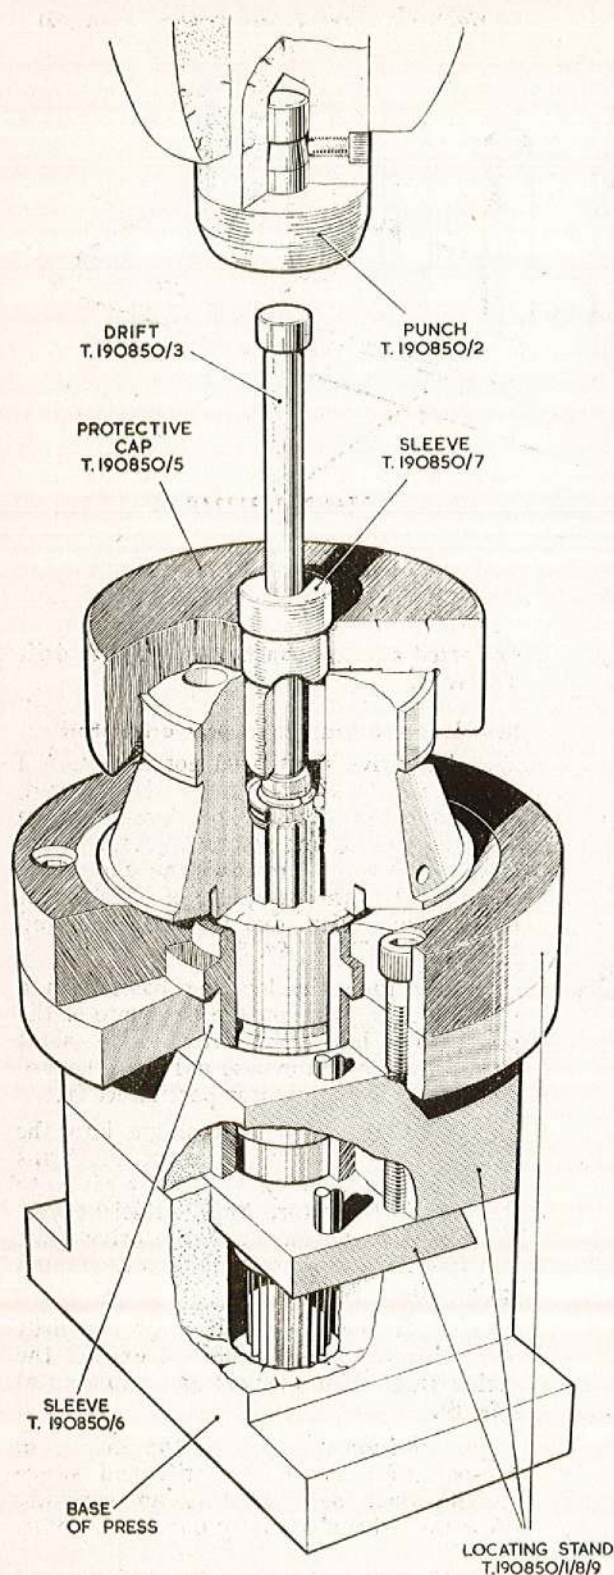

Fig. 5. Removing the rotor drive shaft
23. The drive shaft need not be removed from the rotor unless the shaft is damaged, shows signs of corrosion, or there is leakage past the sealing ring when subjected to the pressure test. To remove the shaft, use a hand press, the baseplate of which must have a hole $1\frac{1}{4}$ in. dia. for clearance, and the tool T.190850 (fig. 5).